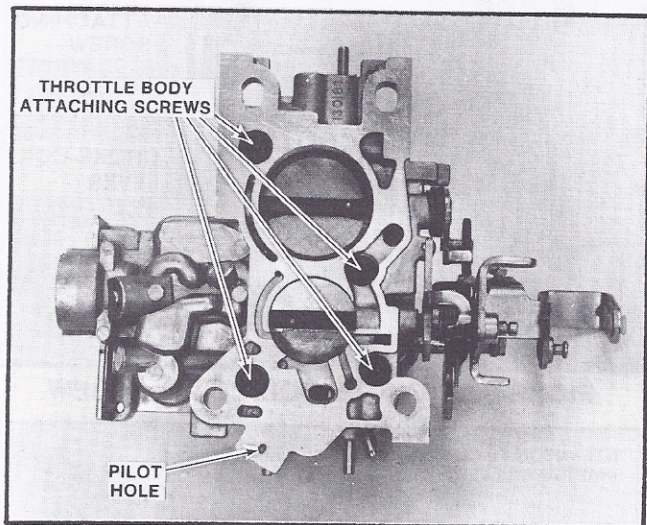

FIGURE 31 THROTTLE BODY SCREWS
2. Remove four (4) throttle body to bowl attaching screws and lockwashers and remove throttle body assembly (Figure 31).
2. Holding fast idle cam so that cam steps face fast idle screw on throttle lever when properly installed, install throttle body making certain throttle body is properly located over dowels on float bowl; then install four (4) throttle body to bowl screws and lockwashers and tighten securely (Figure 31).